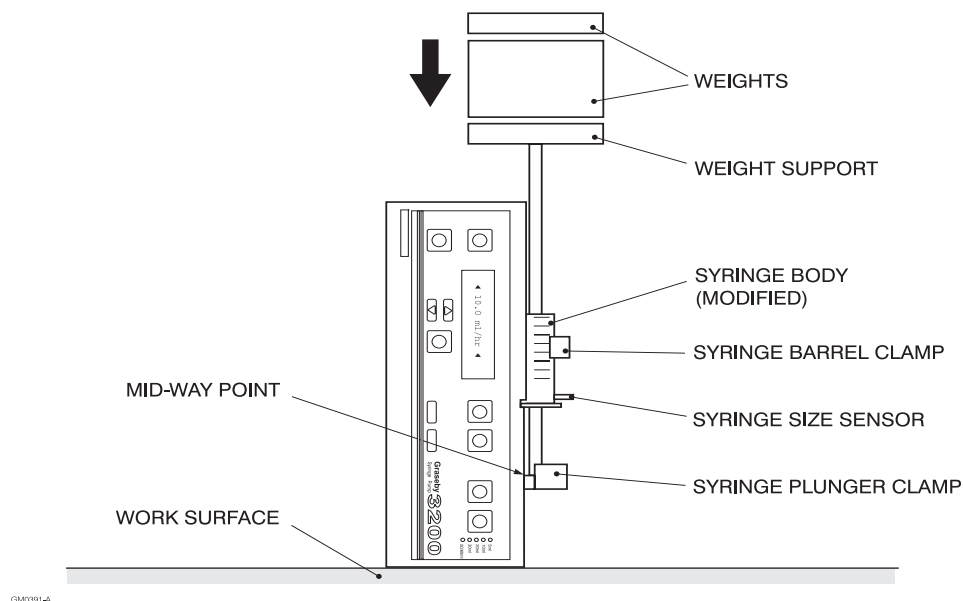

Figure 2.2 Thrust measuring set up
2. Remove the plunger from a BD 60 ml syringe and saw the end off the syringe. Place the modified syringe onto the pump so that it will act as a guide for the weight support rod and also position the size sensor flag (see *Figure 2.2*).
4. Place the pump in a vertical position, with its left hand side uppermost (see *Figure 2.2*).